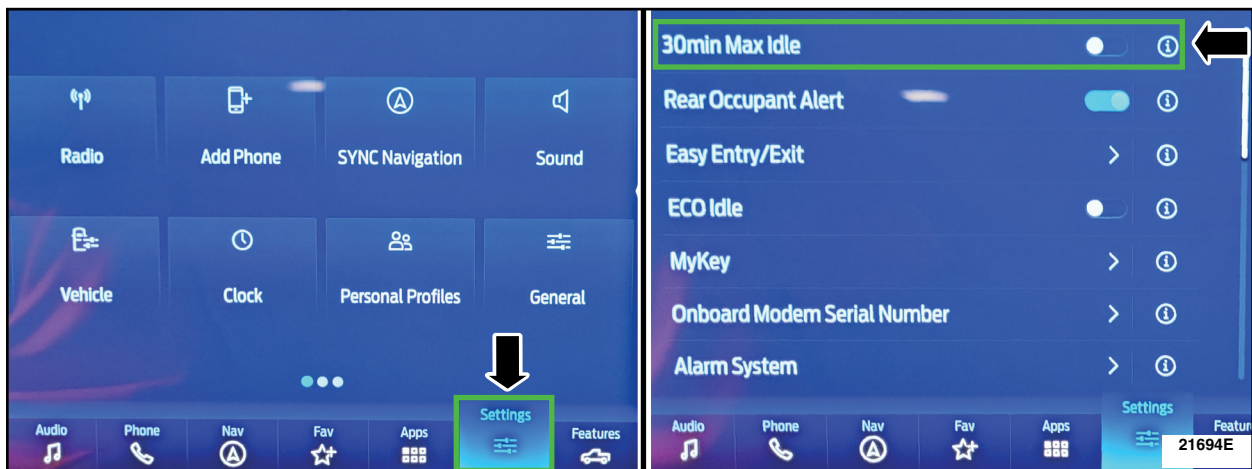

FIGURE 1
- For F-150 vehicles, from the center display press the vehicle settings button and turn off the 30 minute max idle setting. See Figure 1.